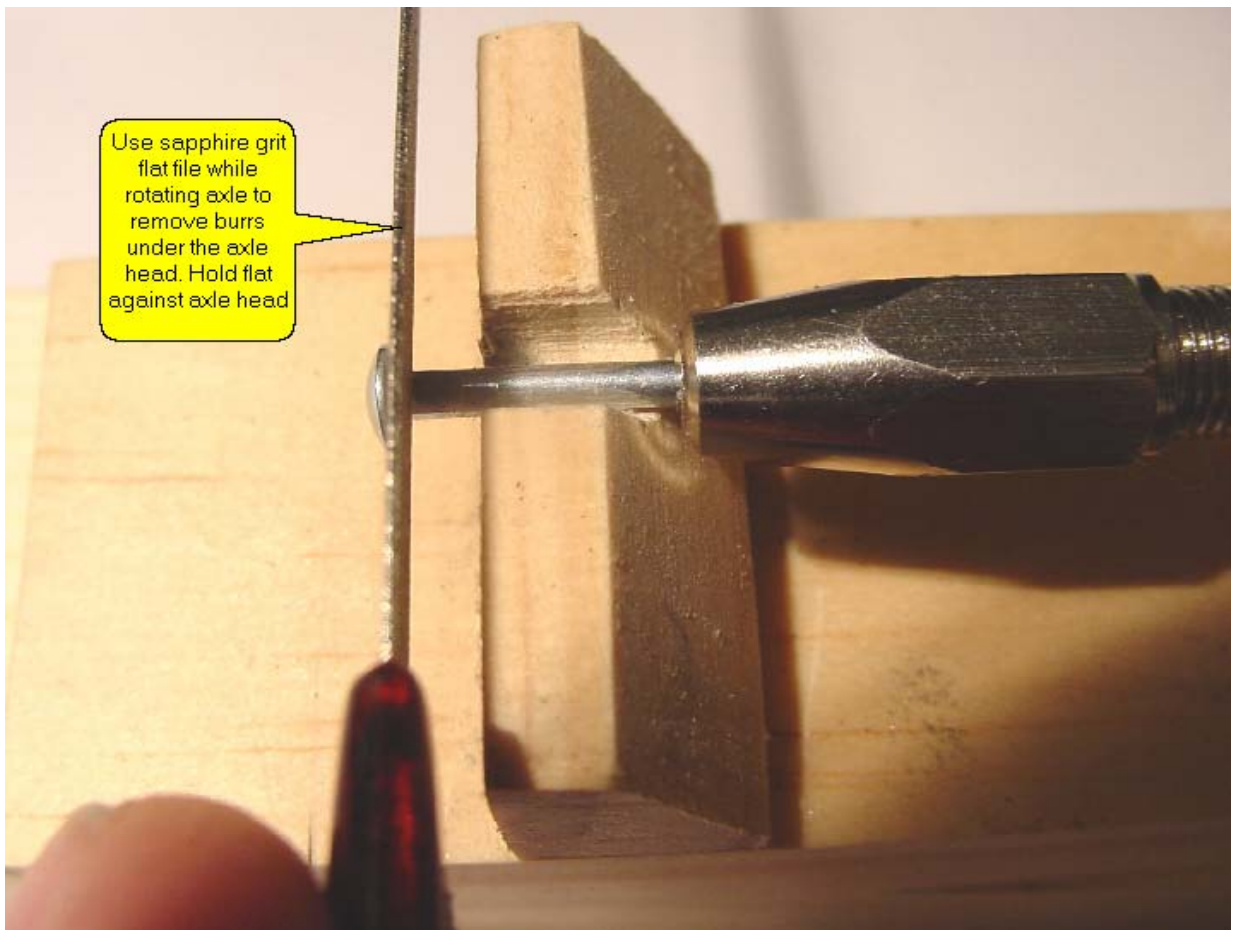

Figure 4 - Magnified view of an axle in the swivel head pin vise placed on the polishing block while filing down the burrs underneath the axle head.
- Don't scratch the axle shaft to the right of the file as shown below in **Fig 4**.